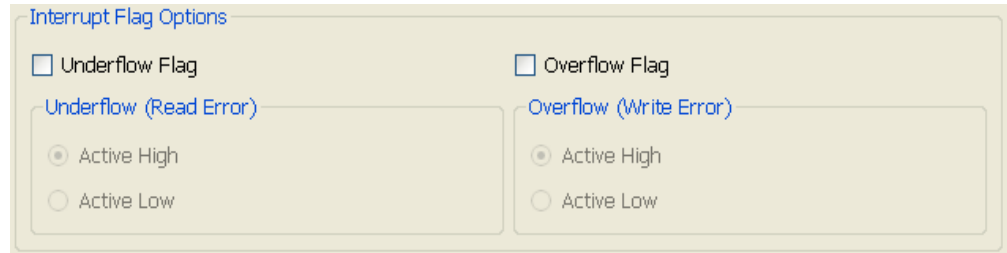

Figure 10-12: AXI4-Stream Interface FIFO: Page 5 - Interrupt Flag Options
- Overflow Flag and Underflow Flag options of Native Interface FIFOs can be set through similar settings on Page 5 of the AXI4-Stream FIFO GUI, shown in Figure 10-12.